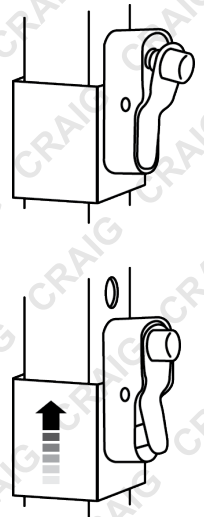

Fig 5 - Tube Lock
- At each leg, secure the top part of the frame to the leg tube – hold the upper section of the leg firmly and slide the roof frame up the leg until the tube lock location pin pops into the hole (Fig 5).